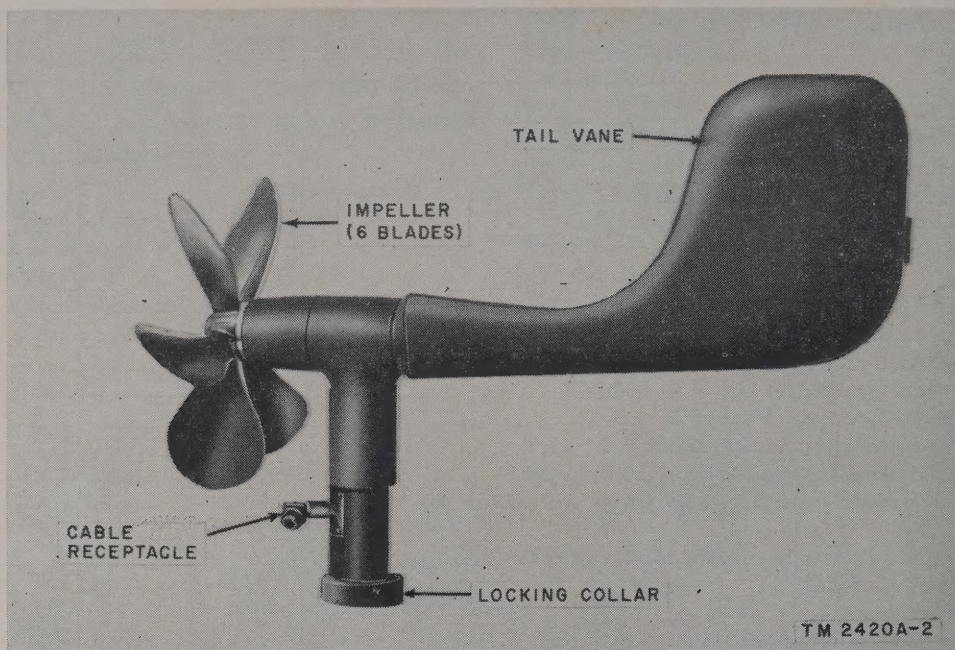

Figure 2. Wind Speed Transmitter T-610/MMQ-1A.
b. Wind Speed Transmitter T-610/MMQ-1A (fig. 2). The wind speed transmitter consists of a generator, 6-bladed impeller, weighted tail vane, sine-cosine potentiometer, and mast and cable connectors. The generator and sine-cosine potentiometer are located inside the wind speed transmitter.